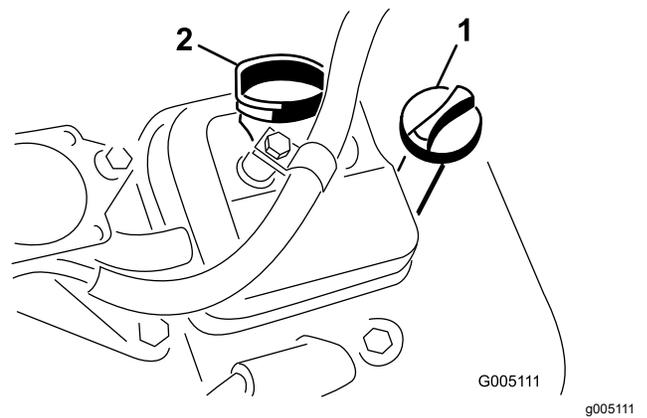

Figure 39
3. Insert the dipstick into the dipstick tube and thread it into the tube (Figure 39).